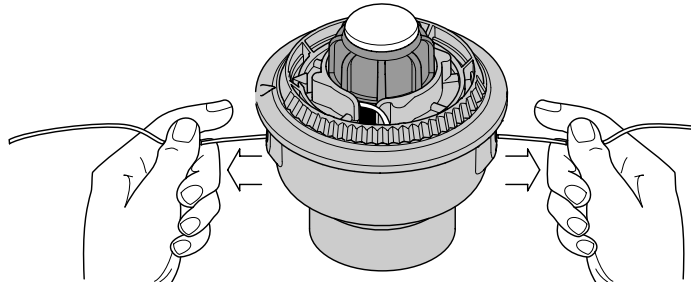

Fig. 13
9. If winding the line becomes difficult or the line jams, pull the ends of the line from the spool (Fig. 13). Continue winding the inner reel counterclockwise.
4. Hold the inner reel in place and install the bump knob, spring and foam seal. Press down and turn the bump knob clockwise. Grasp the ends and pull firmly to release the line from the holding slots in the inner reel. (Fig. 13).
If the SpeedSpool® does not release line correctly, pull the ends of the line firmly from the spool (Fig. 13). If this does not release line, follow the **Cleaning the SpeedSpool®** instructions.